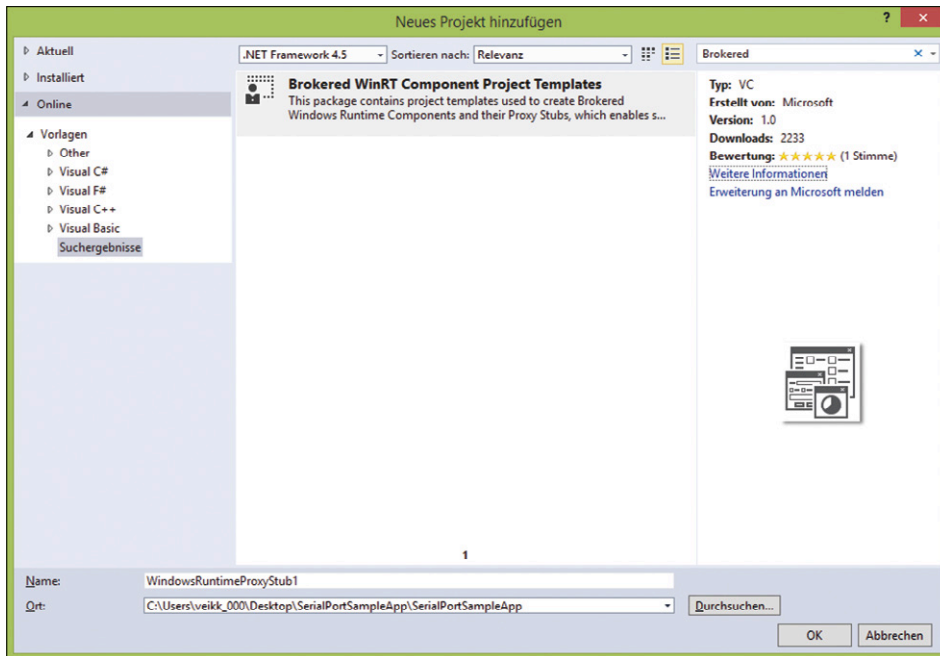

Figure 2. Adding a project (using the Brokred Windows Runtime Component template).
2. Using the Solution Explorer add two further projects based on the 'Brokered WinRT Component Project Templates'. If these templates are not available on the development machine they must be located on-line (see **Figure 2**). The first of the two projects that are added is a C# project, which we call 'SerialPortSampleAppBrokered': it is this project which will contain the code that carries out the communication using the SerialPort class, implementing the interfaces that will be needed by the app. However, the project cannot be included directly as a reference in the app, as this will be rejected by the compiler; to obtain access to the interface we must do so indirectly, via a proxy. The proxy is a separate project (writ-